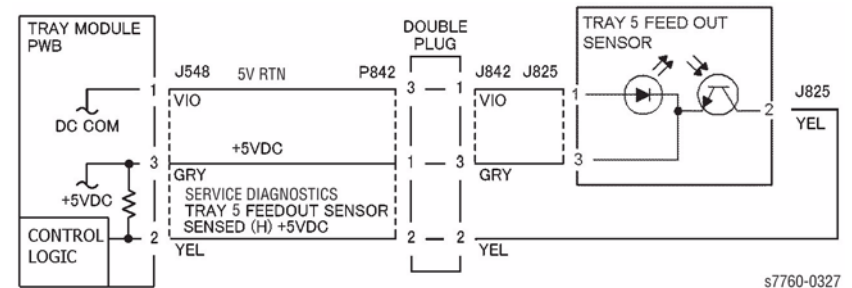

Figure 1 007-122 Tray 5 Feedout Sensor
- Check the circuit of the Tray 5 Feed Out Sensor (Figure 1). Refer to Section 6, **Reflective Sensor Procedure** for troubleshooting procedure.
- Ensure that the connectors shown in the circuit diagram (Figure 1) are securely connected and that the wires are not damaged.